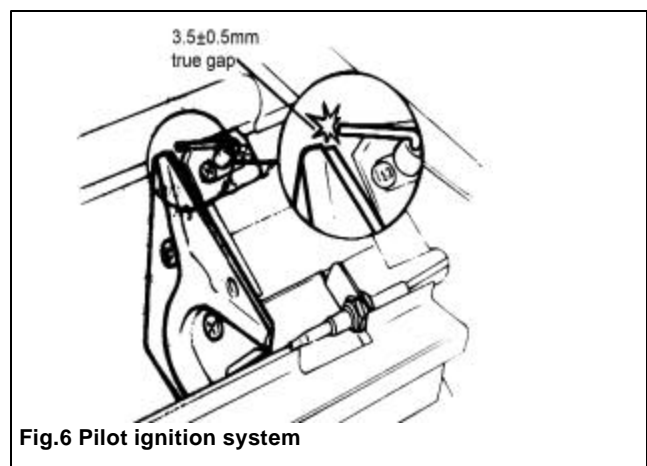

Fig.6 Pilot ignition system
6.2 Check ignition electrode spark (see figure 6)